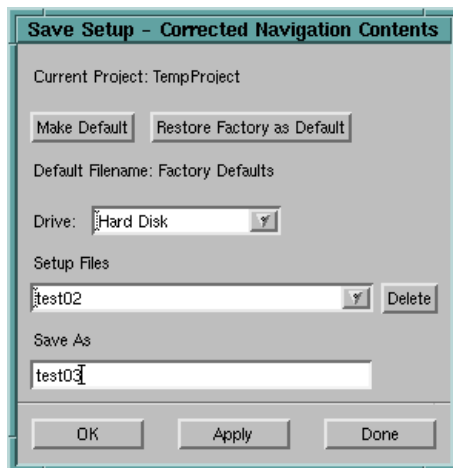

Figure 6-9 The Save Setup - Corrected Navigation Contents Pop-up Window
4. Save the selection. Click on the **Save** button. The **Save Setup - Corrected Nav Contents** pop-up will appear (see Figure 6-9, page 90). Enter a new name in the Save As data entry window and click on the OK button.
Positions that are off-track are calculated using the geographical ping position, heading and across-track distance from the position, as shown in Figure 6-9, page 83. For accurate off-track positions it is essential that the heading is correct.